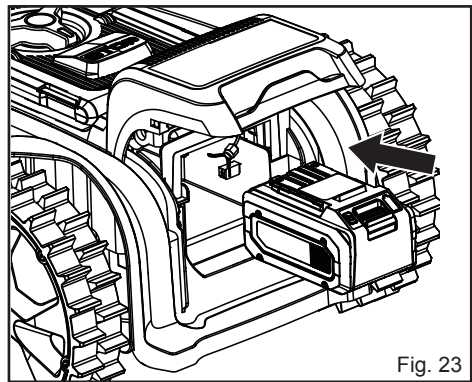

Fig. 23
- Align the support rails located within the battery compartment with the guides in the battery pack, and then insert the battery pack into the compartment (Fig. 23).